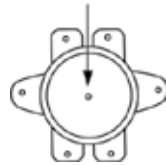

Fig. 9
- for SWH FEL1 series vertical-type water heaters: unscrew retaining nut of the thermal switch, fastened on the flange of the heating element, turn the thermal switch and press the button, located in the center of the thermal switch, until it clicks; Fig. 9;